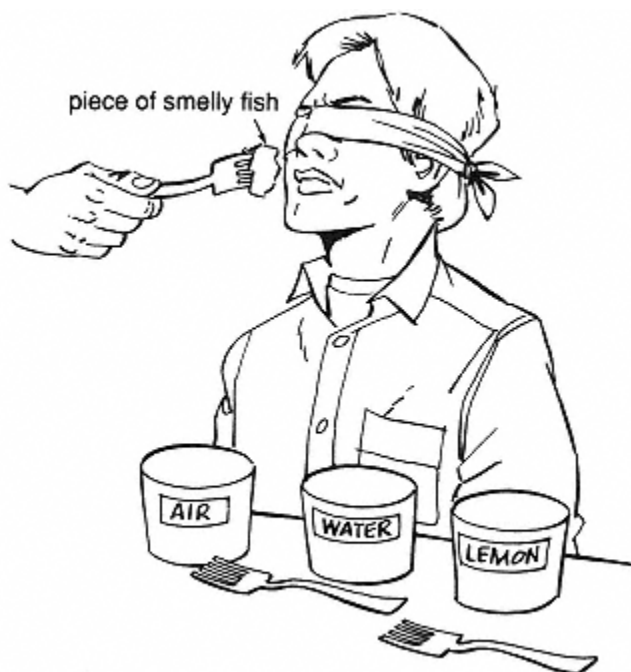

Figure 22.1
11. Ask your helper to compare the smell of the three pieces of fish (see Figure 22.1).